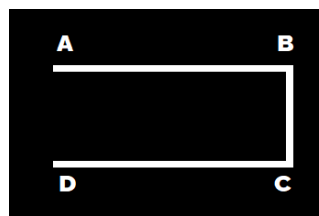

Figure 1
- The graphic image displayed in figure 1 was generated using OpenGL. Given a window size of (600, 600), a window position of (50, 50) and vertices A (-0.8, 0.7), B(-0.2, 0.7) C (-0.2, 0.1 and D (-0.8, 0.1). Write the code for its display function.